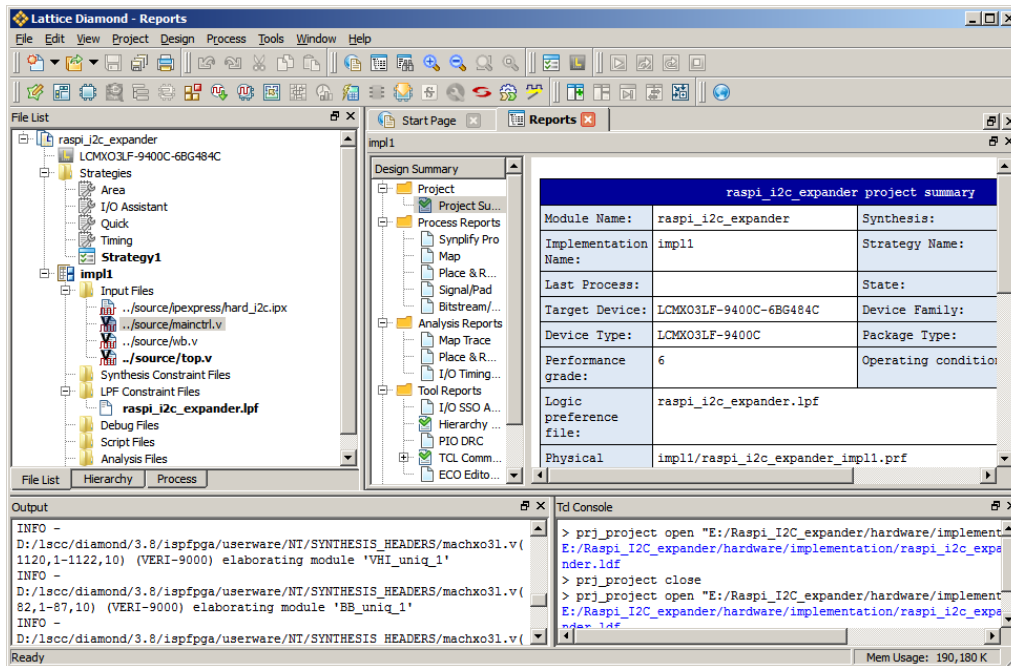

Figure 12.1. Starting Diamond Software
2. Double click to open the source file <drive>:/../source/mainctrl.v in the Source Editor (Figure 12.1).